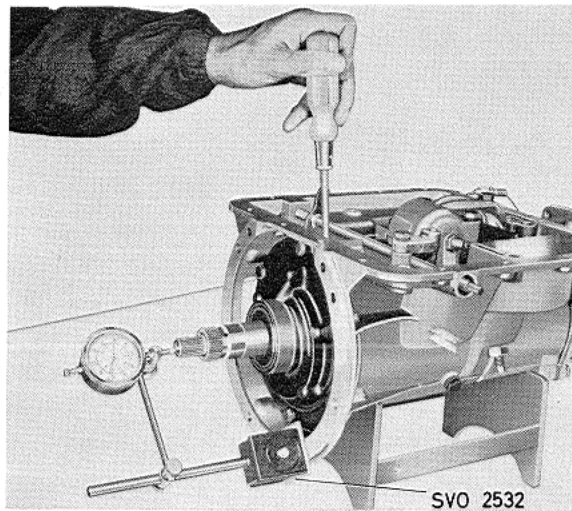

Fig. 45. Checking end float
21. Set up the dial indicator gauge as shown in Fig. 45 with plate SVO 2532 and magnetic